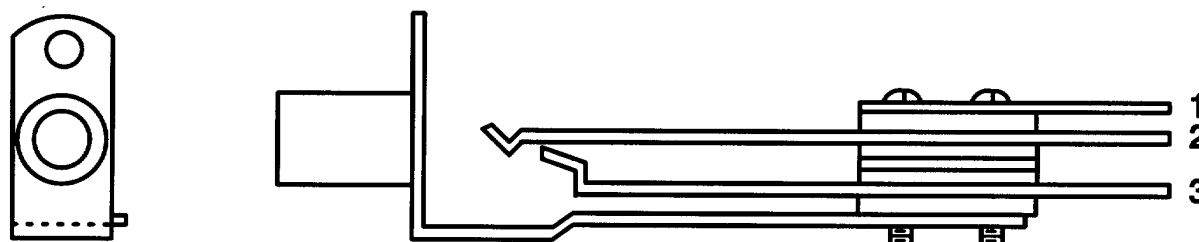

FIGURE 2
- REFER TO FIGURE 2 FOR PIN ASSIGNMENTS OF SINGLE VF JACKS. SOLDER ALL CONNECTIONS. SLEEVE ALL SOLDER CONNECTIONS WITH CLEAR SLEEVING (ITEM 3).